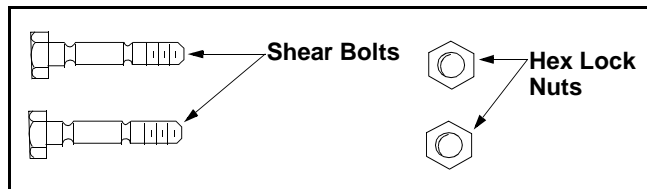

Figure 1
- The augers are secured to the auger shaft with two shear bolts and hex lock nuts. If you hit a foreign object or ice jam, the snow thrower is designed so that the bolts may shear. Two replacement shear bolts and nuts are provided for your convenience. Store in a safe place until needed. See Figure 1.